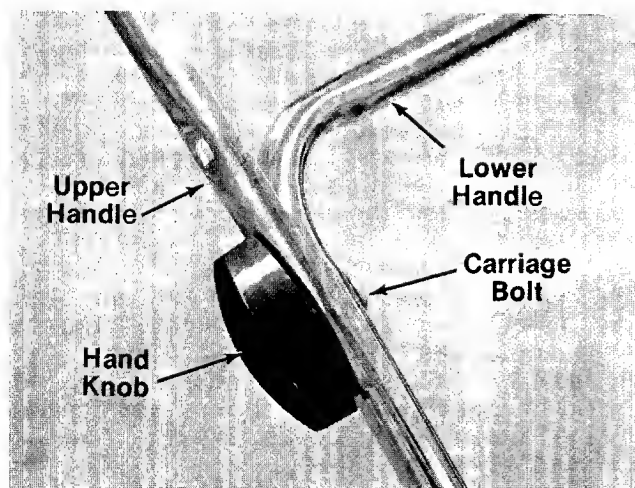

FIGURE 2.
3. Assemble upper handle to lower handle. Secure with two carriage bolts and hand knobs as shown in figure 2. The knobs may be assembled either to the inside or the outside of the handle.